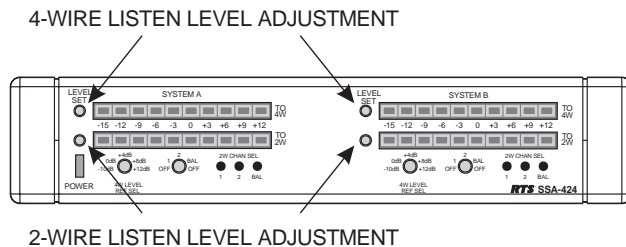

Figure 8. Location of level adjust trimmers
3. Use the level adjust trimmers (Figure 8) to fine-adjust the listen levels.